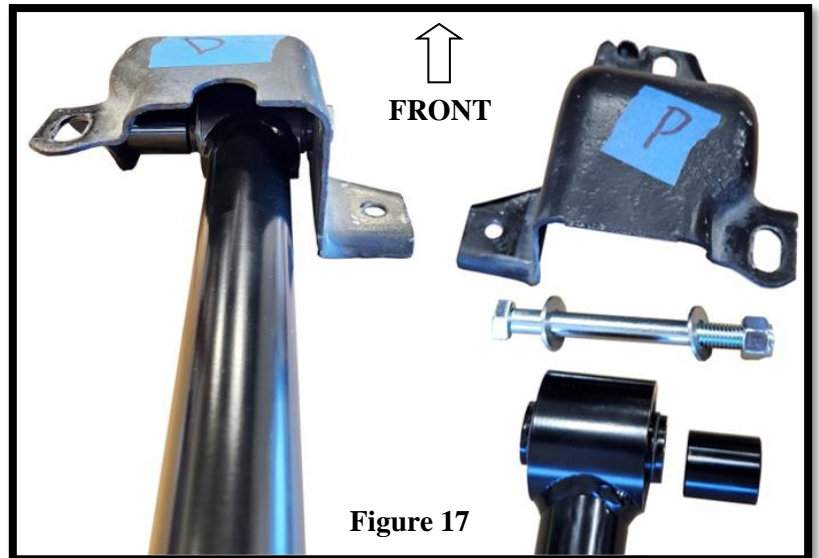

Figure 17
10. Re-using the front leaf spring brackets from the vehicle or the leaf brackets from the QA1 subframe connector kit, bolt the fixed bushing end of the QA1 lower trailing arms to the mounts using one 1.3" wide black anodized spacer on the outboard side of the mount. **(Figure 17)** This connection can only be accomplished with the leaf brackets removed from the car. Secure using 1/2"x 5" bolt with two washers and one nyloc nut per side. This connection should be final torqued at ride height to 75 lb. ft.
12. With the lower trailing arm attached to the factory front leaf spring mounts, reinstall the front leaf spring mounts onto the vehicle using the included new J-nuts (**Figure 17**) and 3/8" hardware. Torque to 30 lb. ft.